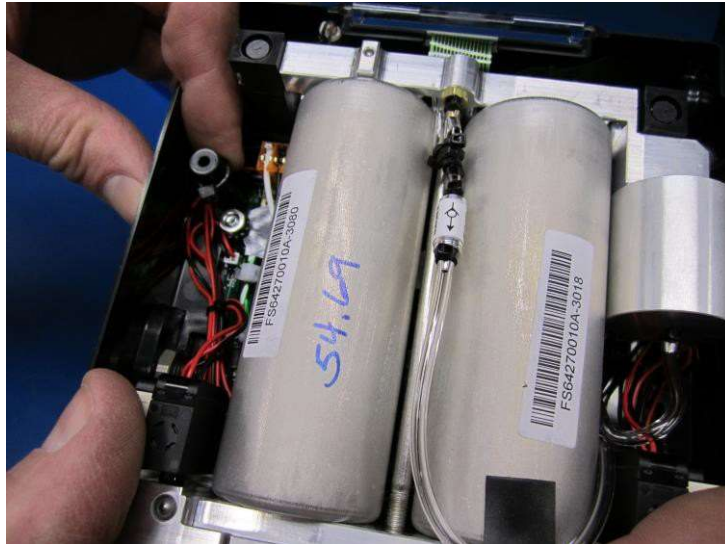

Figure 5.11
12. Remove each tie-wrap around the upper top screw bosses. (See Figure 5.11.)